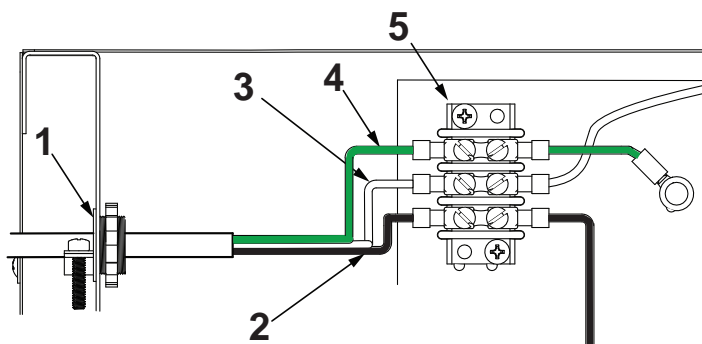

Figure 13: Unwiring Terminal Block
3. Loosen the 3/8" straight-thru connector (See Figure 4, Item 1) and disconnect wiring from terminal board (Figure 4, Item 5) and from Figure 13, Items 2, 3, 4.
5. Feed facility wiring cable back through the 3/8" connector (See Figure 8, Item 1) in the back of the cabinet and wire onto terminal board as shown in Figure 13. Tighten the 3/8" to securely hold the facility wiring in place.